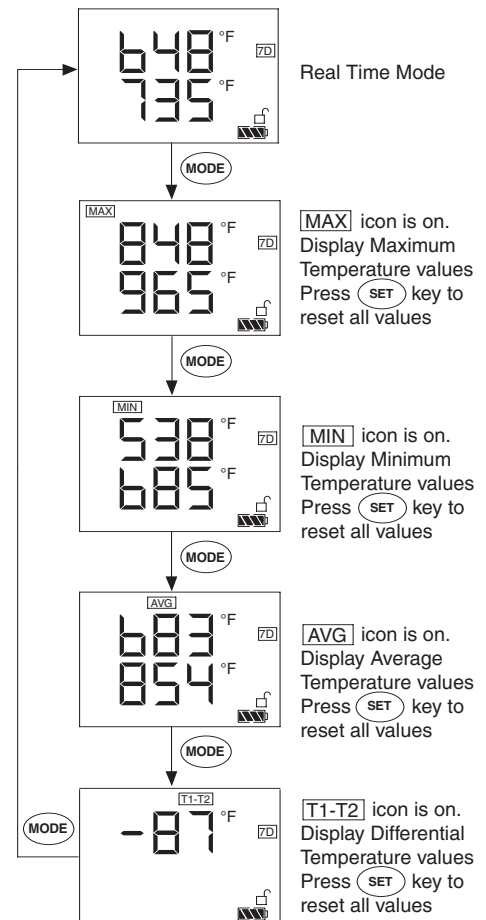

Figure 2-16. Reviewing Parameter Values
1. Connect the end of the cable with the arrow to the short cable on the sensor. Line up the two arrows as shown in Figure 2-16 before mating the two cables.